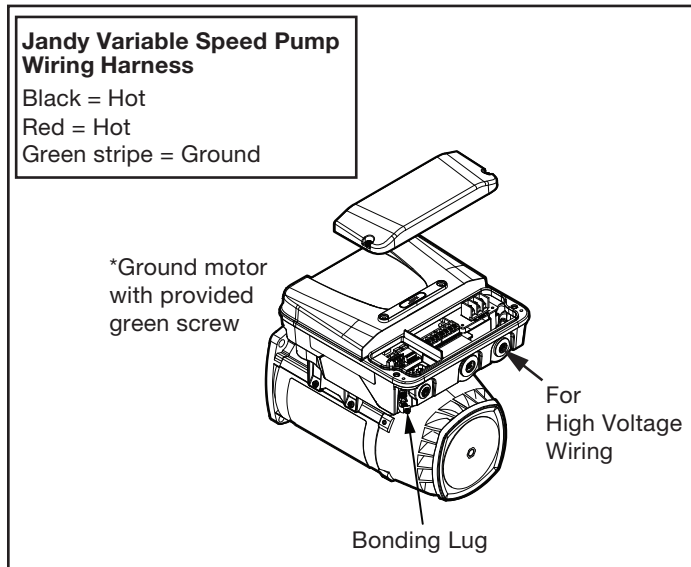

Figure 10. Jandy External Bonding
6. Permanently ground the motor using the green ground wire, as shown in Figure 10. Use the correct wire size and type specified by National Electrical Code (NEC) and the Canadian Electrical Code (CEC). Make sure the ground wire is connected to an electrical service ground.
7. Bond the motor to the pool structure in accordance with the National Electrical Code (NEC) and the Canadian Electrical Code (CEC). Use a solid No. 8 AWG or larger copper conductor (US). Run a wire from the external
bonding lug to the pool bonding structure, as shown in Figure 10.
8. Connect the red and black wires of the pump to the two line side connections on the filter pump relay as shown in Figure 10.